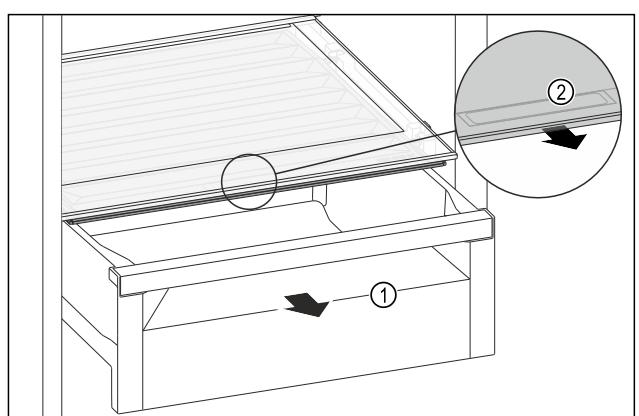

Fig. 144
- Pull out the drawer Fig. 144 (1).
- Grip the handle recess Fig. 144 (2) on the lid while pulling the lid forward at the same time.